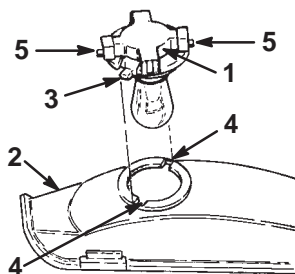

Figure 51
4. Rotate the bulb holder 1/4 turn counterclockwise and remove it from the reflector (Fig. 51).
2. Align the two tabs on the bulb holder with the slots in the reflector and insert the bulb holder into the reflector (Fig. 51).